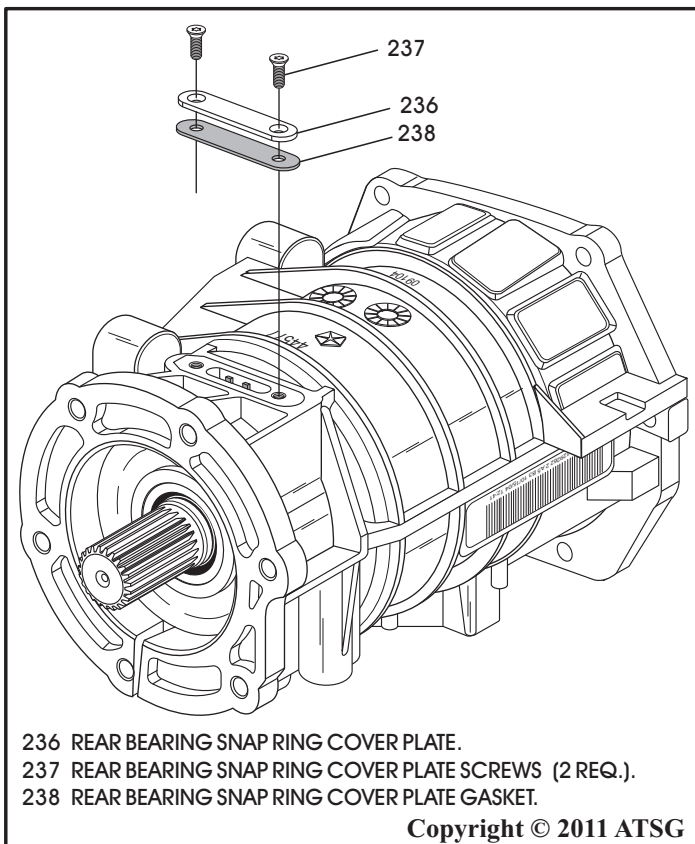

Figure 196
46. Install a new rear ball bearing snap ring access cover gasket, as shown in Figure 196.
47. Install the rear ball bearing snap ring access cover and install the access cover screws, as shown in Figure 196.